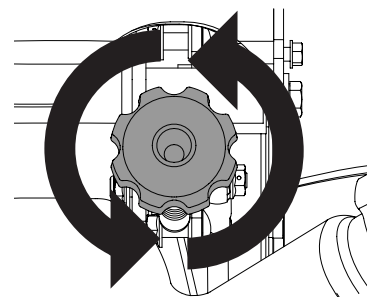

Figure 30
- If the mower tracks (pulls) to the right, rotate the tracking knob to the left in 1/4-turn increments until the mower tracks straight. See Figure 30. Turn left to go left.
- If the mower tracks (pulls) to the left, rotate the tracking knob to the right in 1/4-turn increments until the mower tracks straight. See Figure 30. Turn right to go right.